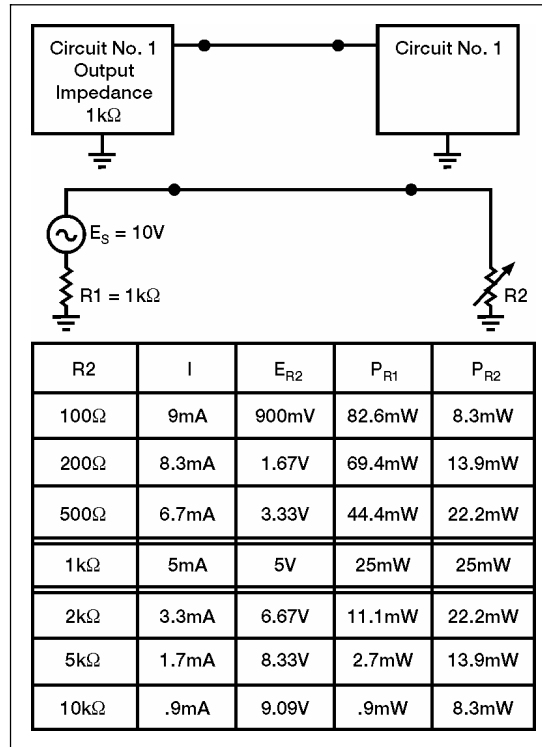

Figure 5-12. Effect of Impedance Matching in the Coupling of Two Circuits
5-54. Figure 5-12 shows two circuits connected together. Circuit number 1 can be considered as an AC source (E_S) whose output impedance is represented by a resistor (R_1). It can be considered as an AC source because the output signal is an AC voltage and comes from circuit number 1 through the output impedance. A resistor in series with the source represents the input impedance of circuit number 2. The resistance is shown as variable to show what will happen as the input impedance of circuit number 2 is changed. The chart below the circuit shows the effect of a change in the input impedance of circuit number 2 (R_2) on current (I), signal voltage developed at the input of circuit number 2 (E_{R_2}), the power at the output of circuit number 1 (P_{R_1}), and the power at the input to circuit number 2 (P_{R_2}).